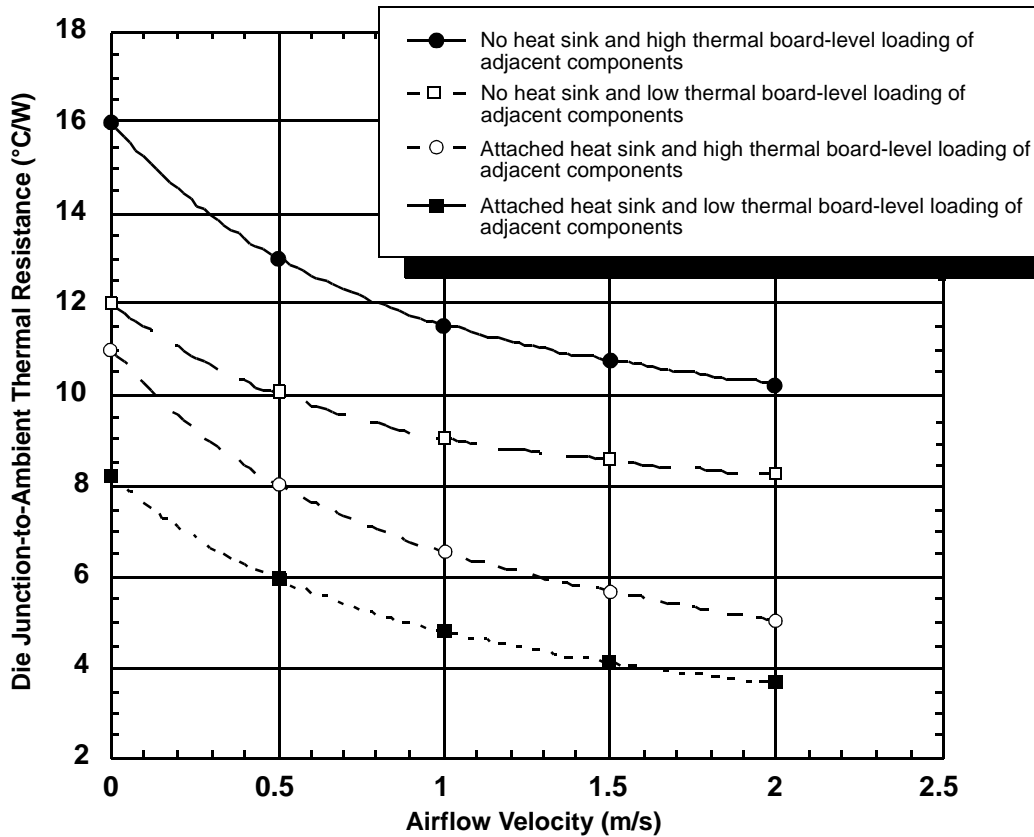

**Figure 27. Package Exploded Cross-Sectional View with Several Heat Sink Options**
This section provides thermal management information for the tape ball grid array (TBGA) package for air-cooled applications. Depending on the application environment and the operating frequency, heat sinks may be required to maintain junction temperature within specifications. Proper thermal control design is primarily dependent upon the system-level design: the heat sink, airflow, and thermal interface material. To reduce the die-junction temperature, heat sinks may be attached to the package by several methods: adhesive, spring clip to holes in the printed-circuit board or package, or mounting clip and screw assembly; see Figure 27.
0.3	<p>Section 1.4.1.5: Changed Max-FP value for 33/133/266 of Table 5, from 2.3 to 2.1 watts, to represent characterization data. Changed Note 4 to say <math>V_{dd} = 2.1</math> for power measurements (for 2-V part).</p> <p>Changed numbers for maximum I/O power supplies for <math>OV_{dd}</math> and <math>GV_{dd}</math> to represent characterization data.</p> <p>Section 1.4.3.1: Added four graphs (Figures 5–8) and description for DLL Locking Range vs. Frequency of Operation to replace Figure 5 of Rev 0.2 document.</p> <p>Section 1.4.3.2: Added row (item 11: <math>T_{su}</math>—SDRAM_SYNC_IN to PCI_SYNC_IN timing) to Table 9, to include offset change requirement.</p> <p>Section 1.5.3: Changed Note 4 of PLL_CFG pins in Table 16 to Note 20.</p> <p>Section 1.7.2: Added diode (MUR420) to Figure 27, Voltage Sequencing Circuit. This is to compensate for voltage extremes in design.</p> <p>Section 1.7.5: Added sentence with regards to SDRAM_SYNC_IN to PCI_SYNC_IN timing requirement (<math>T_{su}</math>) as a connection recommendation.</p> <p>Section 1.7.8 : Mention of <math>T_{su}</math> offset timing, and driver capability differences between the MPC8240 and the MPC8245.</p>